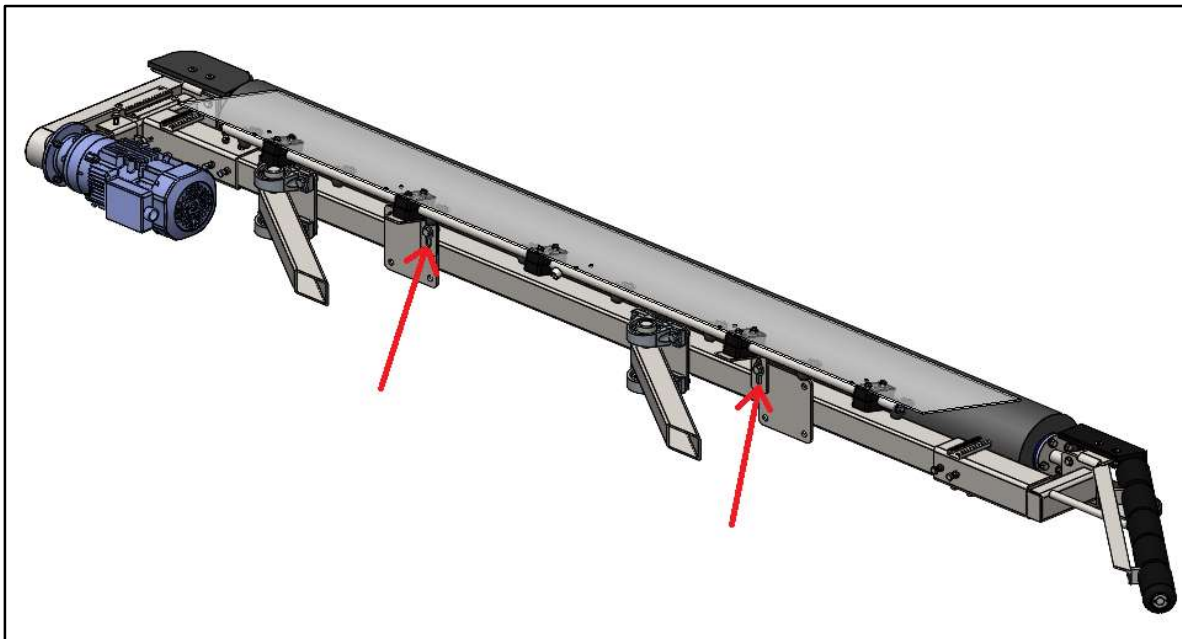

Figure 1: Locations of the two bolts to be removed from the existing Tire Shine assembly.
2.) Remove the two bolts that are holding the existing shield and manifold assembly to the brush, as shown in **Figure 1**. Set this grouping of parts aside for next step.